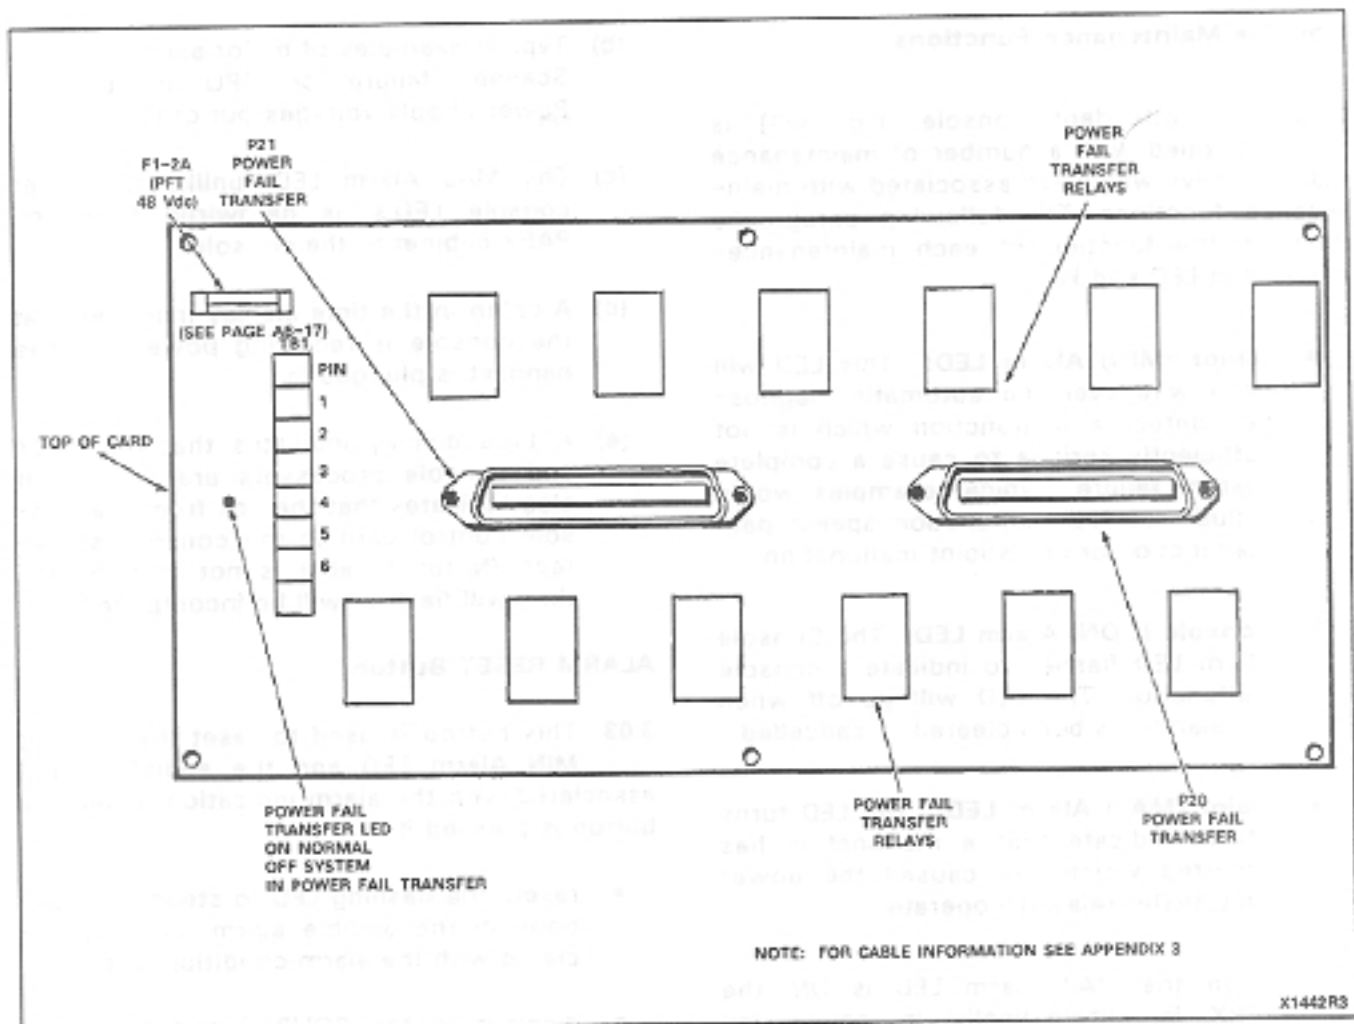

Fig. 2-6 SX-200 Power Fail Transfer Card
2.22 The SX-200 Power Fail Transfer Card (Fig. 2-6) provides for the possibility of 12 CO trunks to be connected to 12 extensions in the event of a commercial power or equipment failure. Two amphenol connectors (P20 and P21, Table 2-7) are hard-wired directly to the cross-connect field (Appendix 3) to provide for power fail transfer. All power for this card is provided through the cable harness to the power terminal block (TB1) at the top of the card. The power fail transfer LED on this card, when not lit, indicates that the system is in a power fail transfer condition.